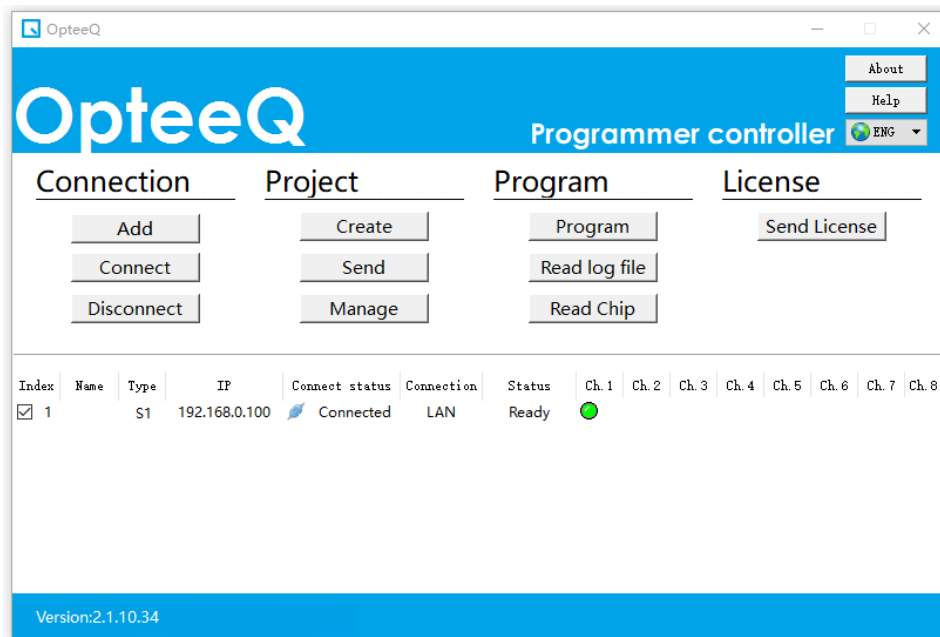

Figure 4.10: Display Interface Showing Successful Connection of the Programmer
2) The display interface showing that the programmer has been connected successfully is shown in Figure 4.10. When the PC is connected to the programmer successfully, the "LINK/link" LED indicator in the programmer lights up.